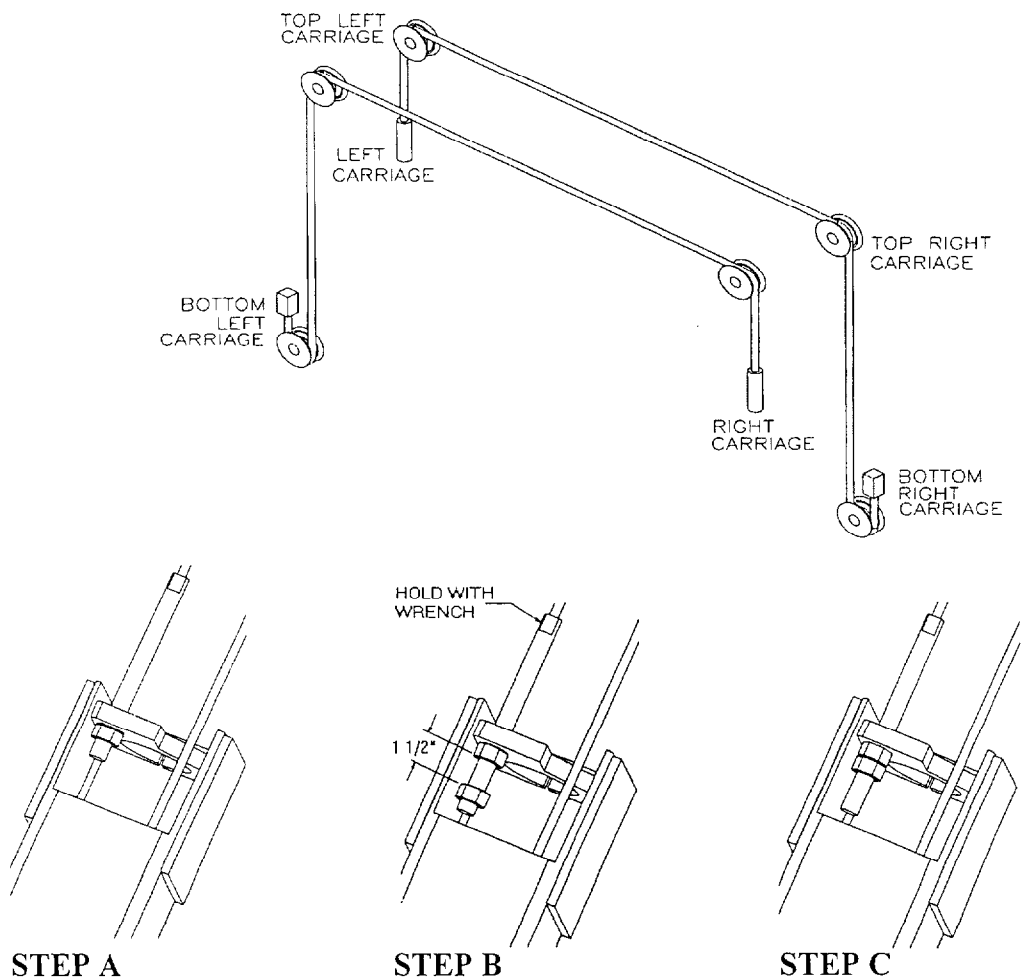

Figure 6 – Equalization Cables
Use **Figure 6** to route the equalization cables.
3. Route the equalization cables as shown in **Figure 6**. Insert the threaded stud down the opening in the top of one carriage and through the $\frac{9}{16}$ " Dia. hole in the bottom of the carriage. Route the cable around the sheave at the base of the column and up around the sheave at the top of the column. Run the cable across the crossmember and around the sheave at the top of the other column. Insert the threaded stud into the $\frac{9}{16}$ " Dia. hole in the top of the carriage.